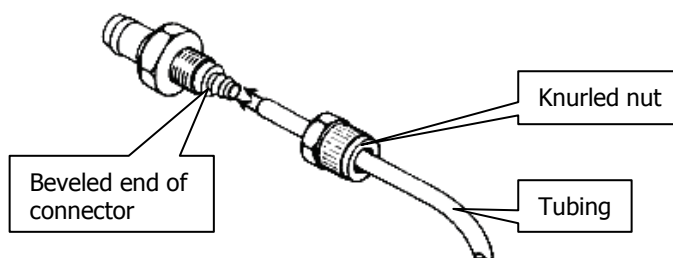

Figure 29 Purge fittings
1. The tubing is connected to the instrument by a universal pipe fitting which is secured to the tubing with a nut. Two sets of fittings are supplied with the instrument. Assemble the fittings to the tubing as illustrated in Figure 29.